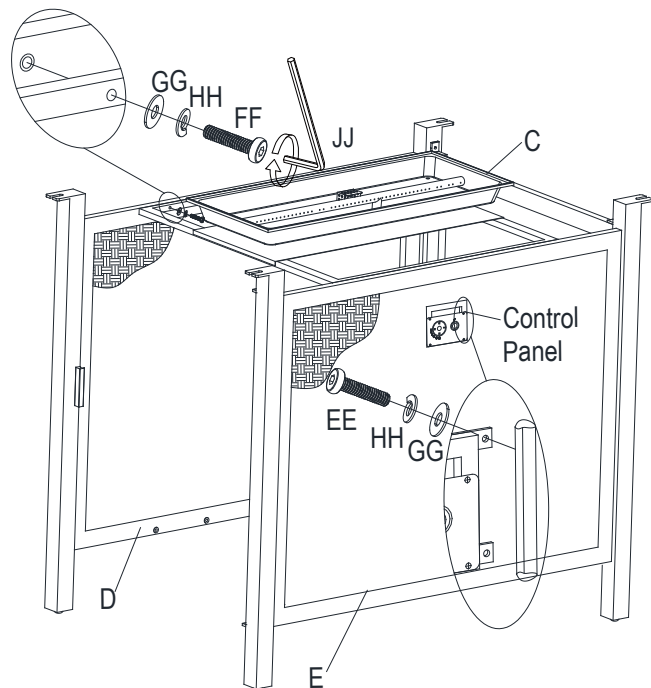

Figure 3
3. Loosely attach Burner Pan (C) to the Left Side Panel (D) and Right Side Panel (E) by bolts (FF) through lock washers (HH), flat washers (GG), using Allen wrench (JJ).
4. Loosely attach control panel from Burner Pan (C) to the Right Side Panel (E) by bolts (EE) through lock washers (HH), flat washers (GG), using Allen wrench (JJ). See figure 3.